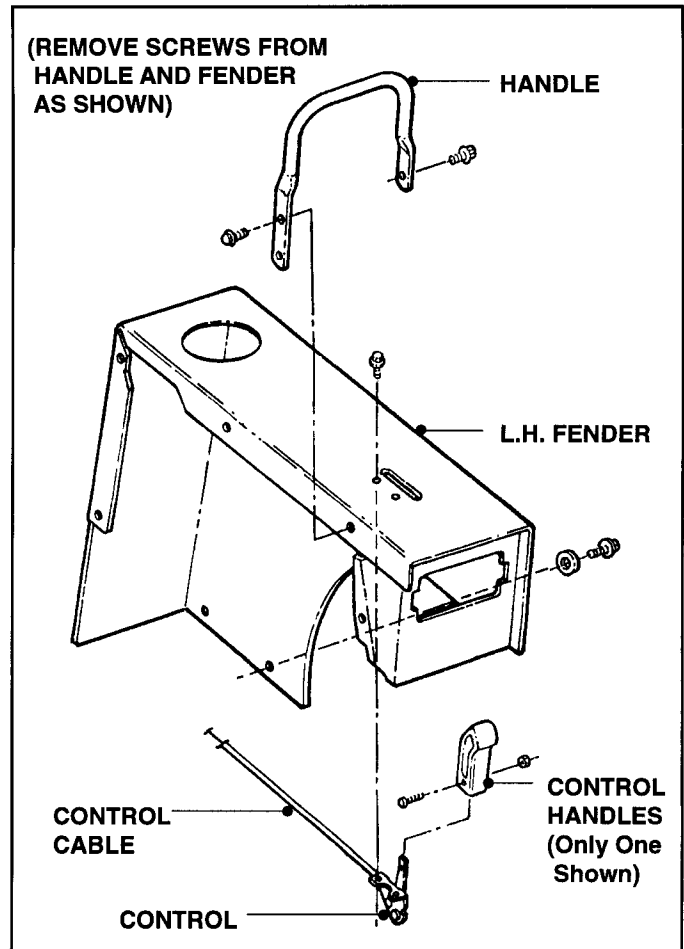

FIGURE 7.9
1. Remove Handle. See Figure 7.9.
7. Remove the four (4) Screws which secure the Choke and Throttle Controls to the Fender.